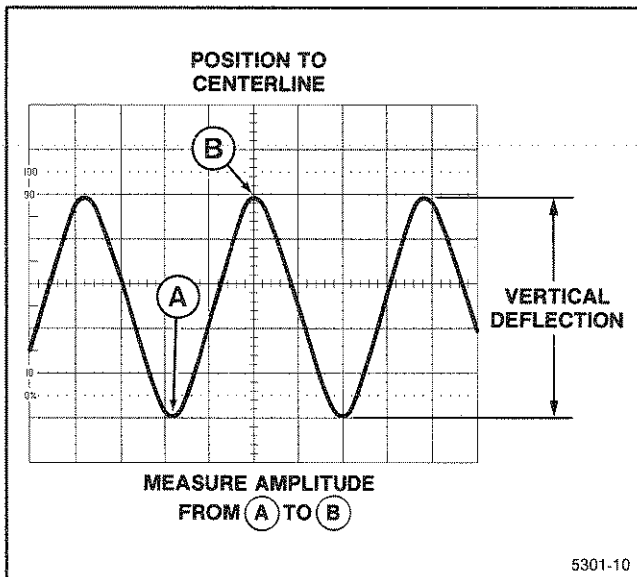

Figure 6-1. Peak-to-peak waveform voltage.
6. Vertically position the displayed waveform so that the negative peak of the waveform coincides with one of the horizontal graticule lines (see Figure 6-1, Point A).
7. Horizontally position the display so that one of the positive peaks coincides with the center vertical graticule line (see Figure 6-1, Point B).
8. Measure the vertical deflection from peak to peak (see Figure 6-1, Point A to Point B).
**EXAMPLE:** The measured peak-to-peak vertical deflection is 5 divisions (see Figure 6-1) with a VOLTS/DIV switch setting of 0.5 V, using a 10X probe.